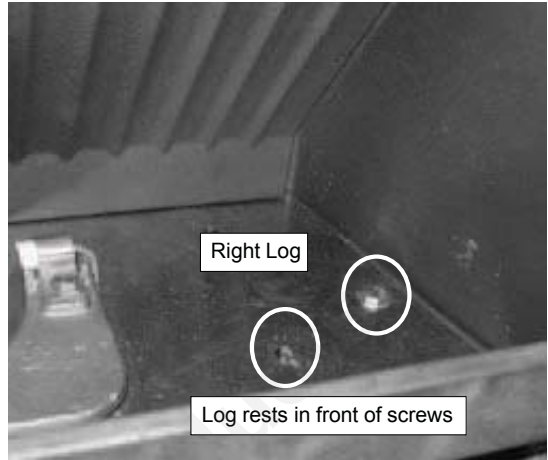

Figure 23.3
2. Place the right log in front of the 2 screw heads in the firebox. **Figures 23.3 & 23.4.**